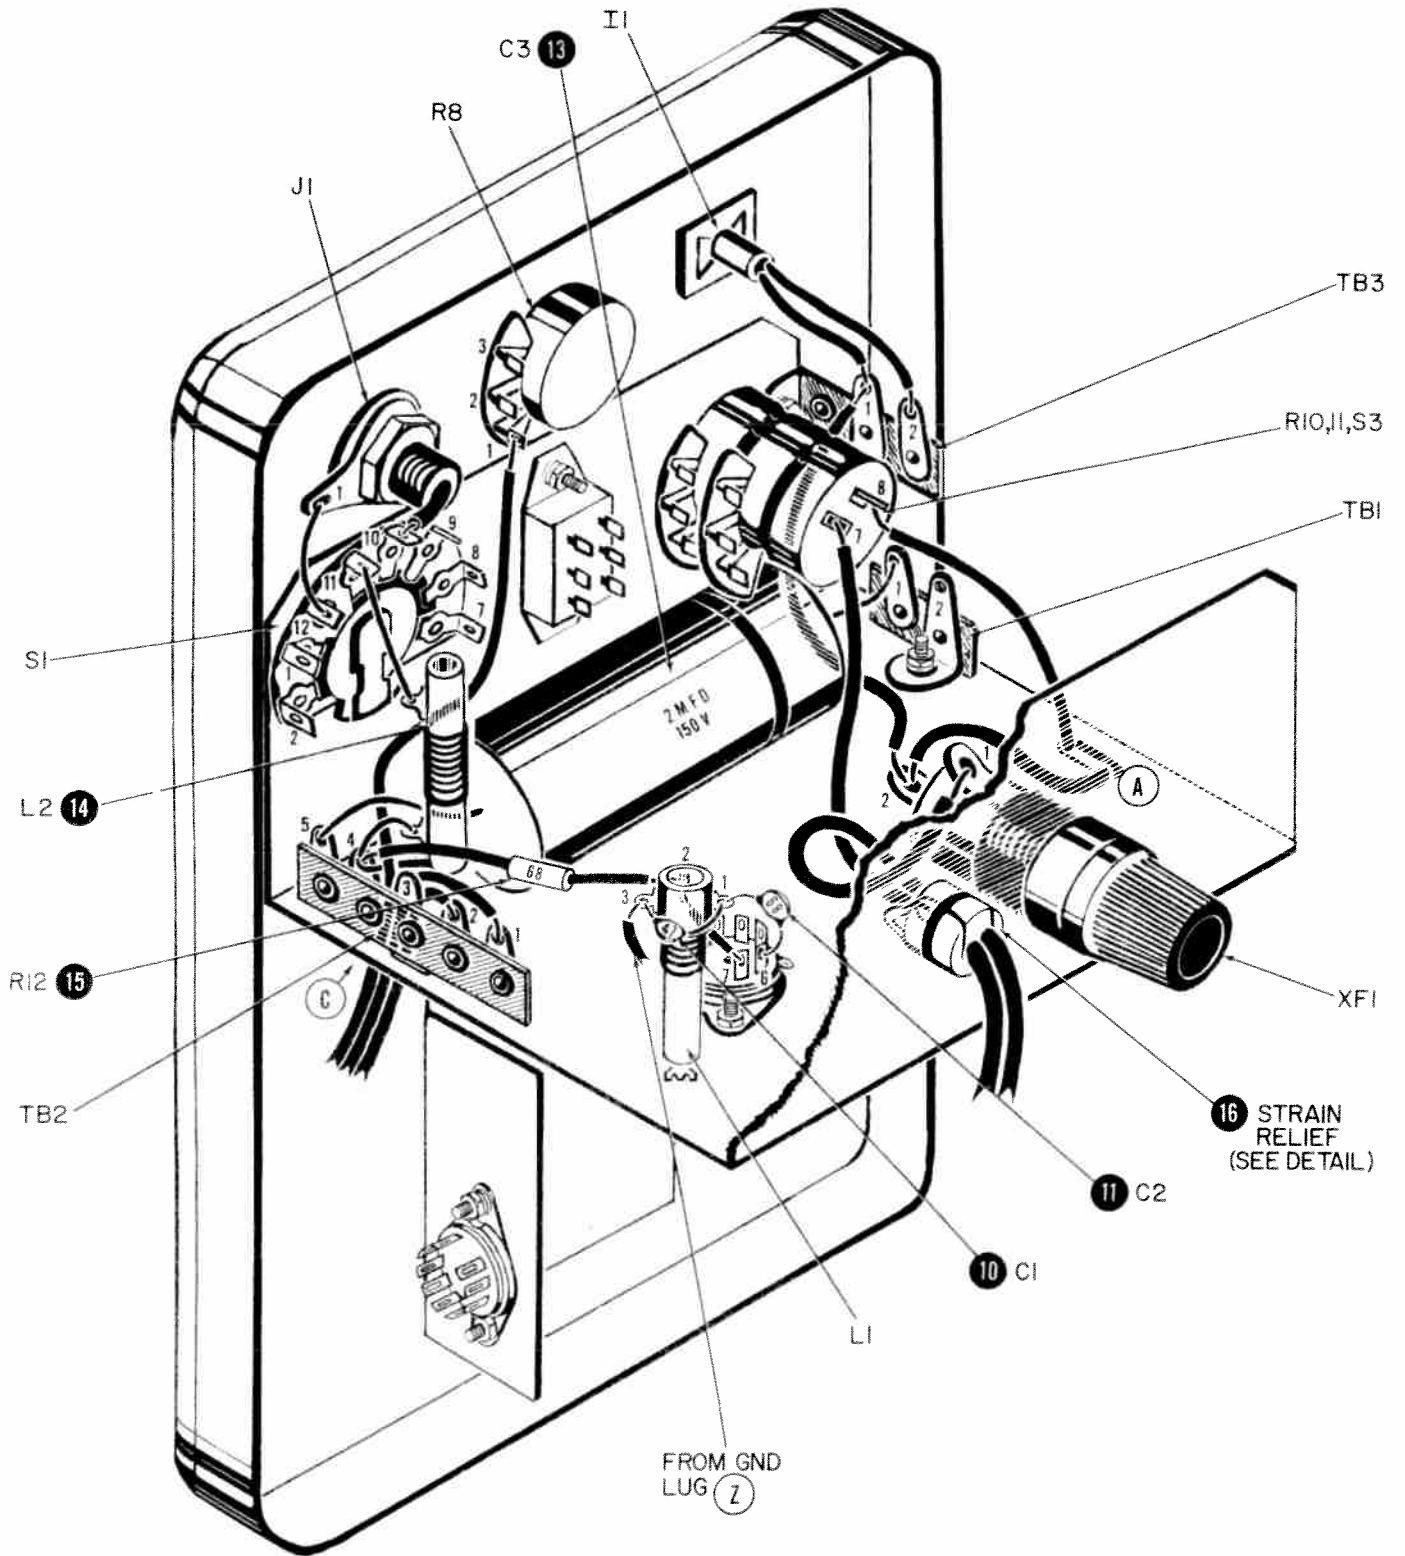

Figure 5. Bottom Chassis Wiring (Cont'd.)
- () 16. Referring to figure 5 and the insert, place the line cord 4" from the tinned ends, onto the groove of the larger section and between the two sections of the two piece strain relief, with the tinned ends toward the smaller section. Bend the smaller sec-